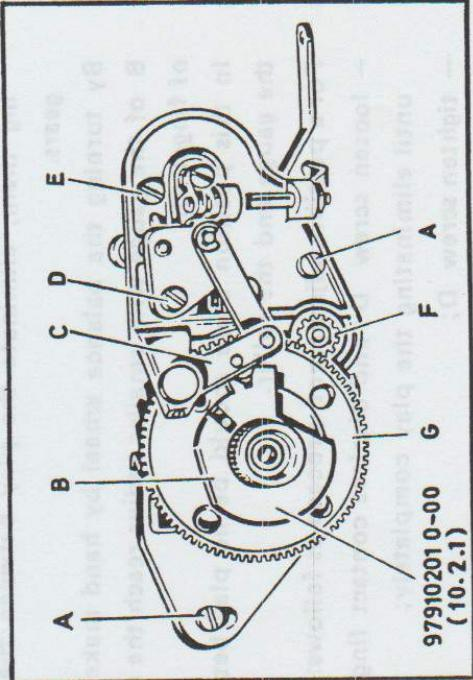

Fig. 43
- Tighten screw E slightly (fig. 43);
- position gauge symb. 979102010-00 (10.2.1) on driven gear G (fig. 43);